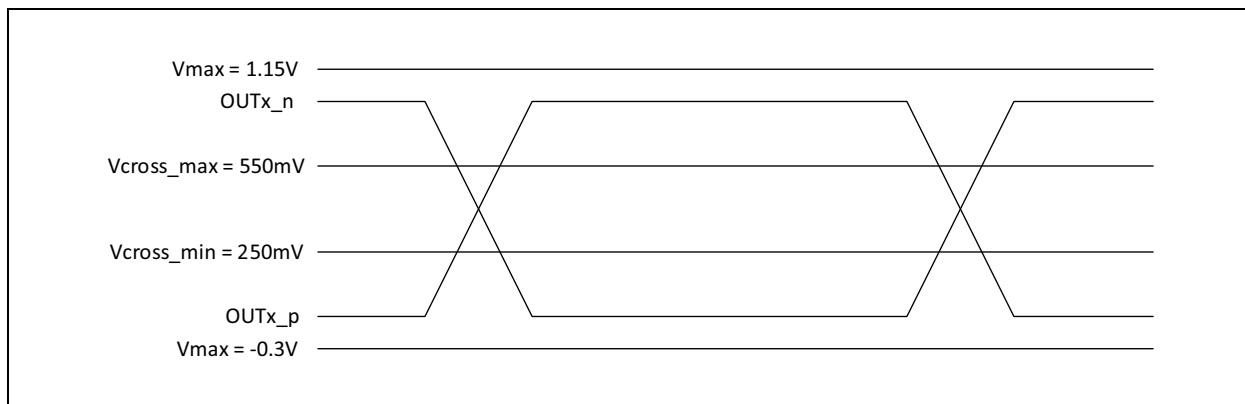

FIGURE 4-1: Single-Ended Measurement Points for Absolute Cross Point and Swing.
- 5:** Measured at crossing point where the instantaneous voltage value of the rising edge of CK equals the falling edge of CK#. See Figure 4-1.
- 6:** Refers to the total variation from the lowest crossing point to the highest, regardless of which edge is crossing. Refers to all crossing points for this measurement. See Figure 4-1.
- 7:** Defined as the maximum instantaneous voltage including overshoot. See Figure 4-1.
- 8:** Defined as the maximum instantaneous voltage including undershoot. See Figure 4-1.